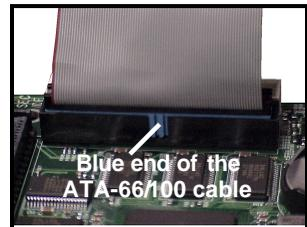

Figure I-2
Step 3: The blue end of the cable (see Figure I-2 to the right for an example) goes to the Primary or Secondary connector on the motherboard (see p. 7 for location). Make sure Pin 1 of the ATA-100/66 cable connects to Pin 1 of the Primary IDE connector (see p. 7 for location). Check all connections after completing this step, before you continue to the next part of the installation.